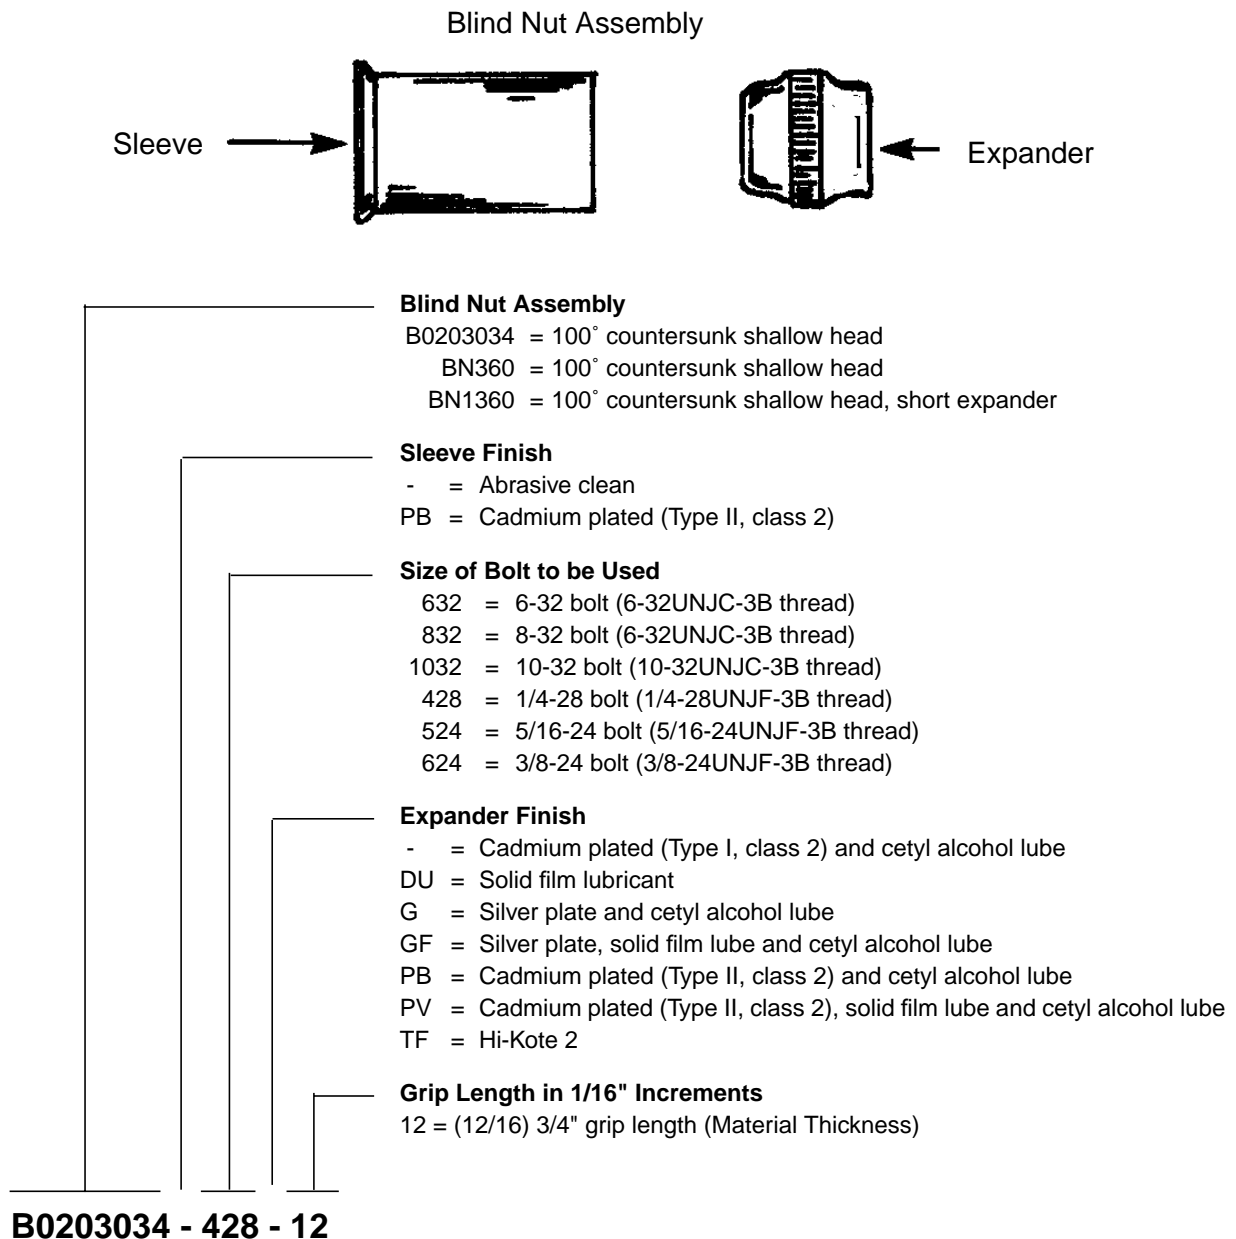

Figure 1 - General Description and Part Number Breakdown For Blind Nuts
- 4.1.1 Blind nuts as specified on the engineering drawing (e.g., Bombardier B0203034, Hi-Shear BN360 or Hi-Shear BN1360). Refer to Figure 1 for a general description and part number breakdown.
- 5.3.1 Check selected fastener holes for conformance to the requirements of Table 1 using the applicable go/no-go gauge as follows (see Figure 1):